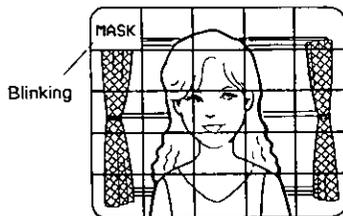

Fig. 51
- To mask this area, press the Setup Mode Button (SET UP). The word "MASK" appears in this area as shown in Fig. 51.